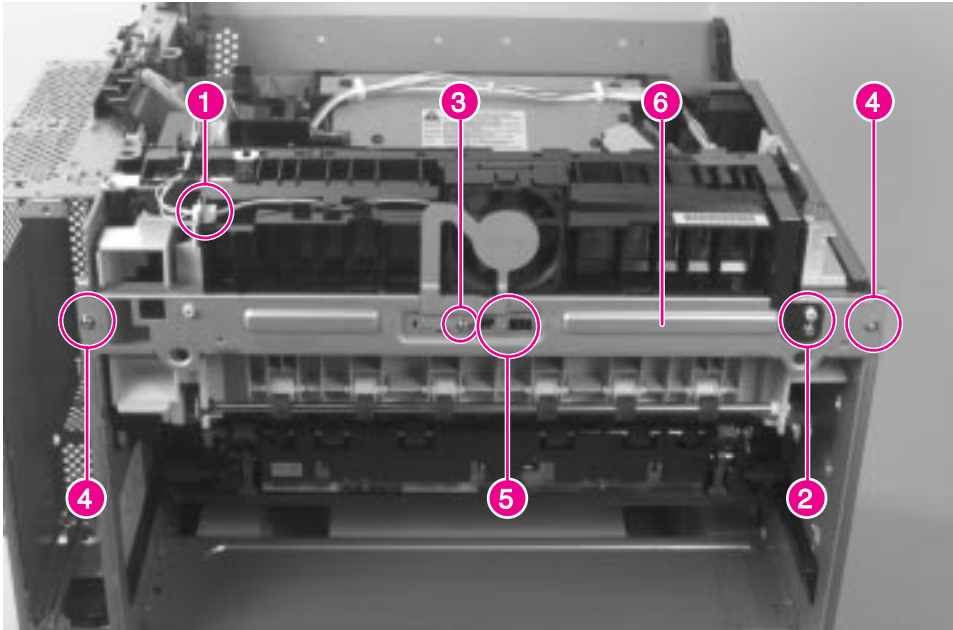

Figure 6-11 Delivery Unit (1 of 2)
- 2 Unplug and re-route the fan cable out of the way (figure 6-11, callout 1).
- 3 Remove 1 screw (figure 6-11, callout 2) to loosen the grounding strip.
- 4 Remove 1 screw (figure 6-11, callout 3), and remove the metal fan shield.
- 5 Open the Diverter Assembly access door, remove 2 screws (figure 6-11, callout 4), release the plastic retaining tabs (figure 6-11, callout 5), and remove the metal mounting bracket (figure 6-11, callout 6).
- 3 Replace the metal mounting bracket (figure 6-11, callout 6) before replacing the Delivery Unit screws. Make sure that the plastic clips (figure 6-11, callout 5) are snapped into place before tightening the mounting screws (figure 6-11, callout 4).